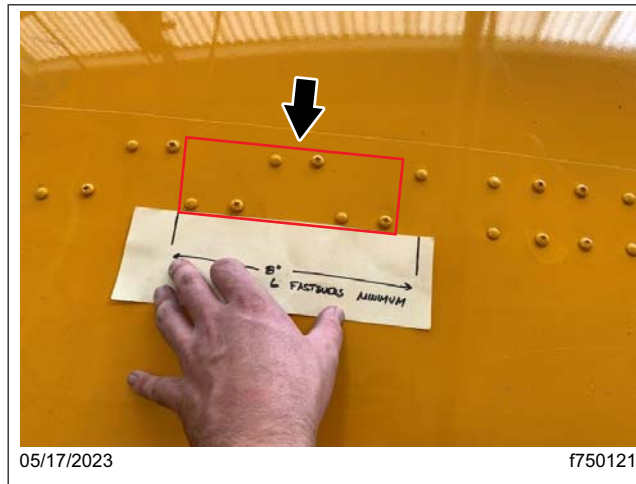

Fig. 17, Six Fasteners Installed in an Eight-Inch Span
IMPORTANT: Any eight-inch span of the seam should have a minimum of six fasteners (including rivets and screws), as shown in Fig. 17. If the number of fasteners is less than six, add additional screws wherever required.
- IMPORTANT:** Any eight-inch span of the seam should have a minimum of six fasteners (including rivets and screws), as shown in Fig. 17. If the number of fasteners is less than six, add additional screws wherever required.